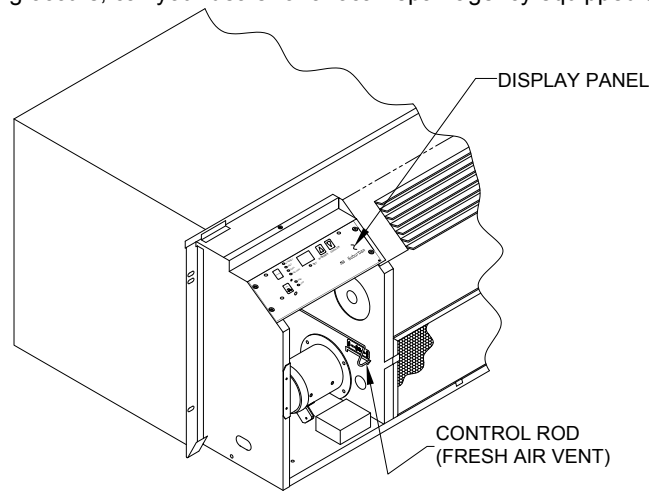

Figure 16
- A. Periodically observe the main burner flame to assure it is burning with a hard blue flame with well-defined burner ports. (See Figure 16.) If flame appears yellow or burner has a lazy flame, shut furnace down and contact a qualified service person.